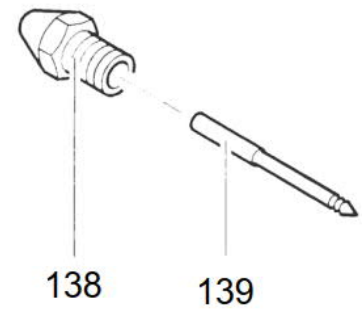

Figure 4
Special Accessories (figure 4)
- **Nozzle, 9.5 mm dia. (figure 4)**
- **Short nozzle needle (figure 4)**